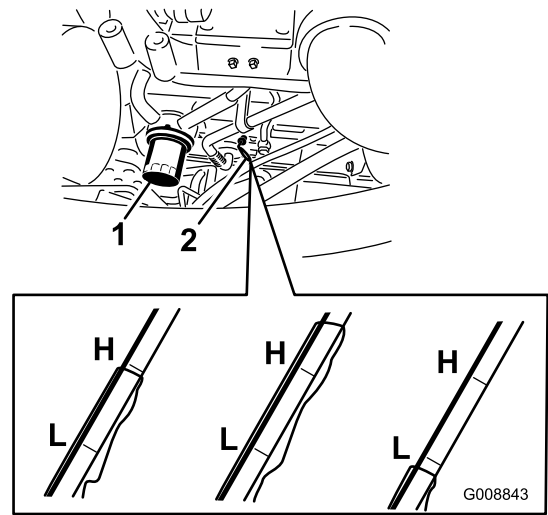

Figure 61
- Remove the dipstick (Figure 61), wipe it clean, install the dipstick into the tube, and pull it out again. The oil level should be up to the Full mark.
2. Remove the oil filter (Figure 61). Apply a light coat of clean oil to the new filter seal before screwing it on. **Do not overtighten.**